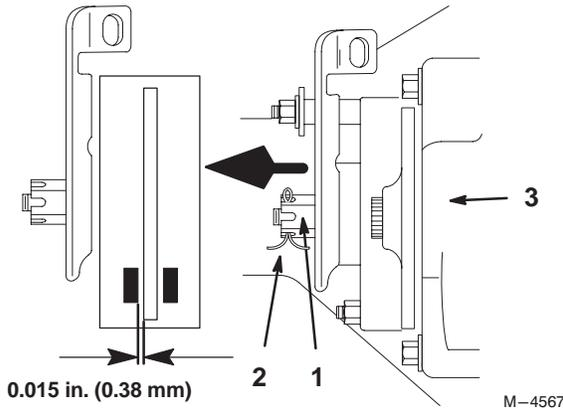

Figure 30
3. To adjust the brake remove the cotter pin and loosen the brake adjusting nut slightly (Fig. 30).
4. Carefully insert a 0.015 in. (.38 mm) feeler gauge between the outer brake pad and rotor disk (Fig. 30).